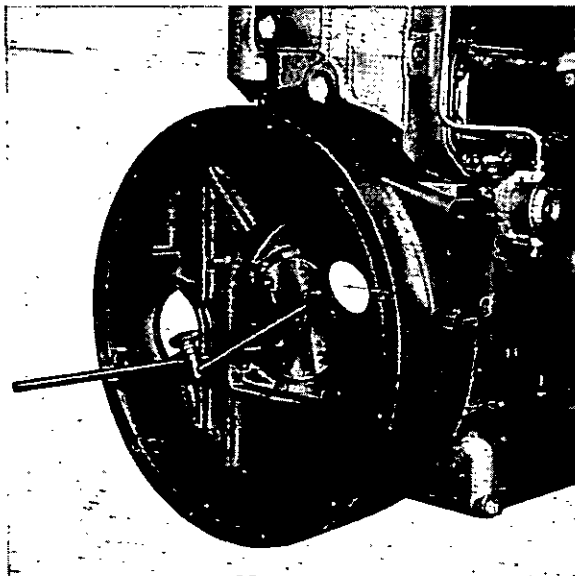

Fig. N.4.
- Check perpendicular alignment (Fig. N.4). This facing should be within the limits listed on Page N.3.